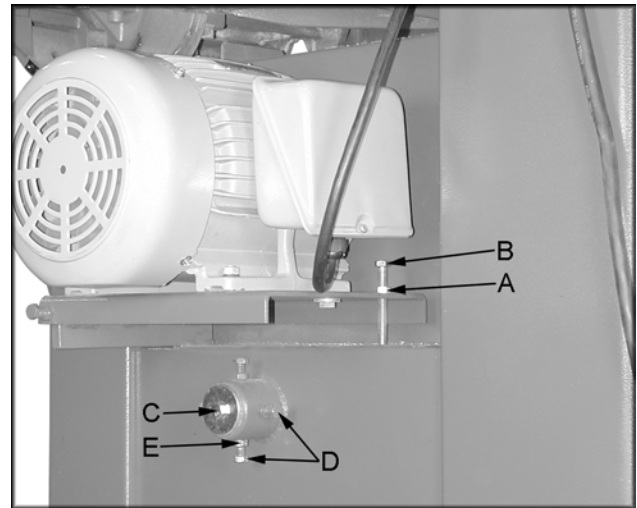
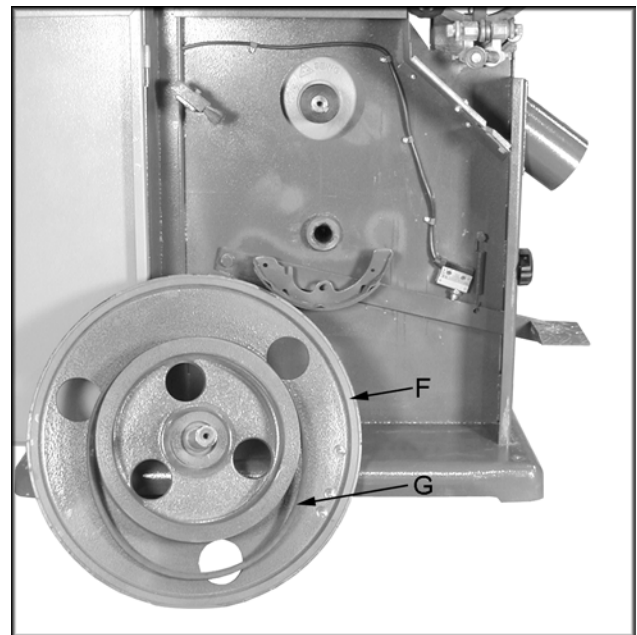

Figure 13
Figure 14
3. Loosen the hex nut (A, Figure 13) and turn hex cap bolt (B, Figure 13) to lower the motor assembly. This will take tension off the v-belt. Stop when you can remove the v-belt from the motor pulley.
4. Unscrew the bolt (C, Figure 13). Loosen two of the shaft bolts (D, Figure 13) to remove lower wheel. **Note:** don't loosen hex nuts (E, Figure 13).
5. Remove lower wheel assembly (F, Figure 14) by pulling from the front side. If the lower wheel does not come off easily you may need to loosen another shaft bolt (D, Figure 13).
6. Remove the old belt (G, Figure 14) and replace with a new belt.
8. Tighten bolt (C, Figure 13) and tighten shaft bolts (D, Figure 13). Tighten hex nut (E, Figure 13).
2. Loosen the hex nut (A, Figure 13) and turn hex cap bolt (B, Figure 13) to raise or lower the motor assembly. This will add or remove tension to the v-belt.